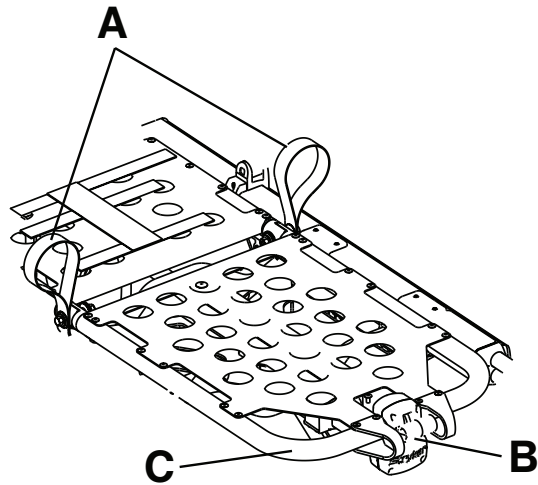

Figure 22 – Gatch
To lower the footrest, lift the frame and lift up on the footrest release handle (B) until the frame releases the support bracket (Figure 22). Lower the footrest until flat.
1. Lift either of the red lifting loops (A) until the knee Gatch is in the highest position (Figure 22).